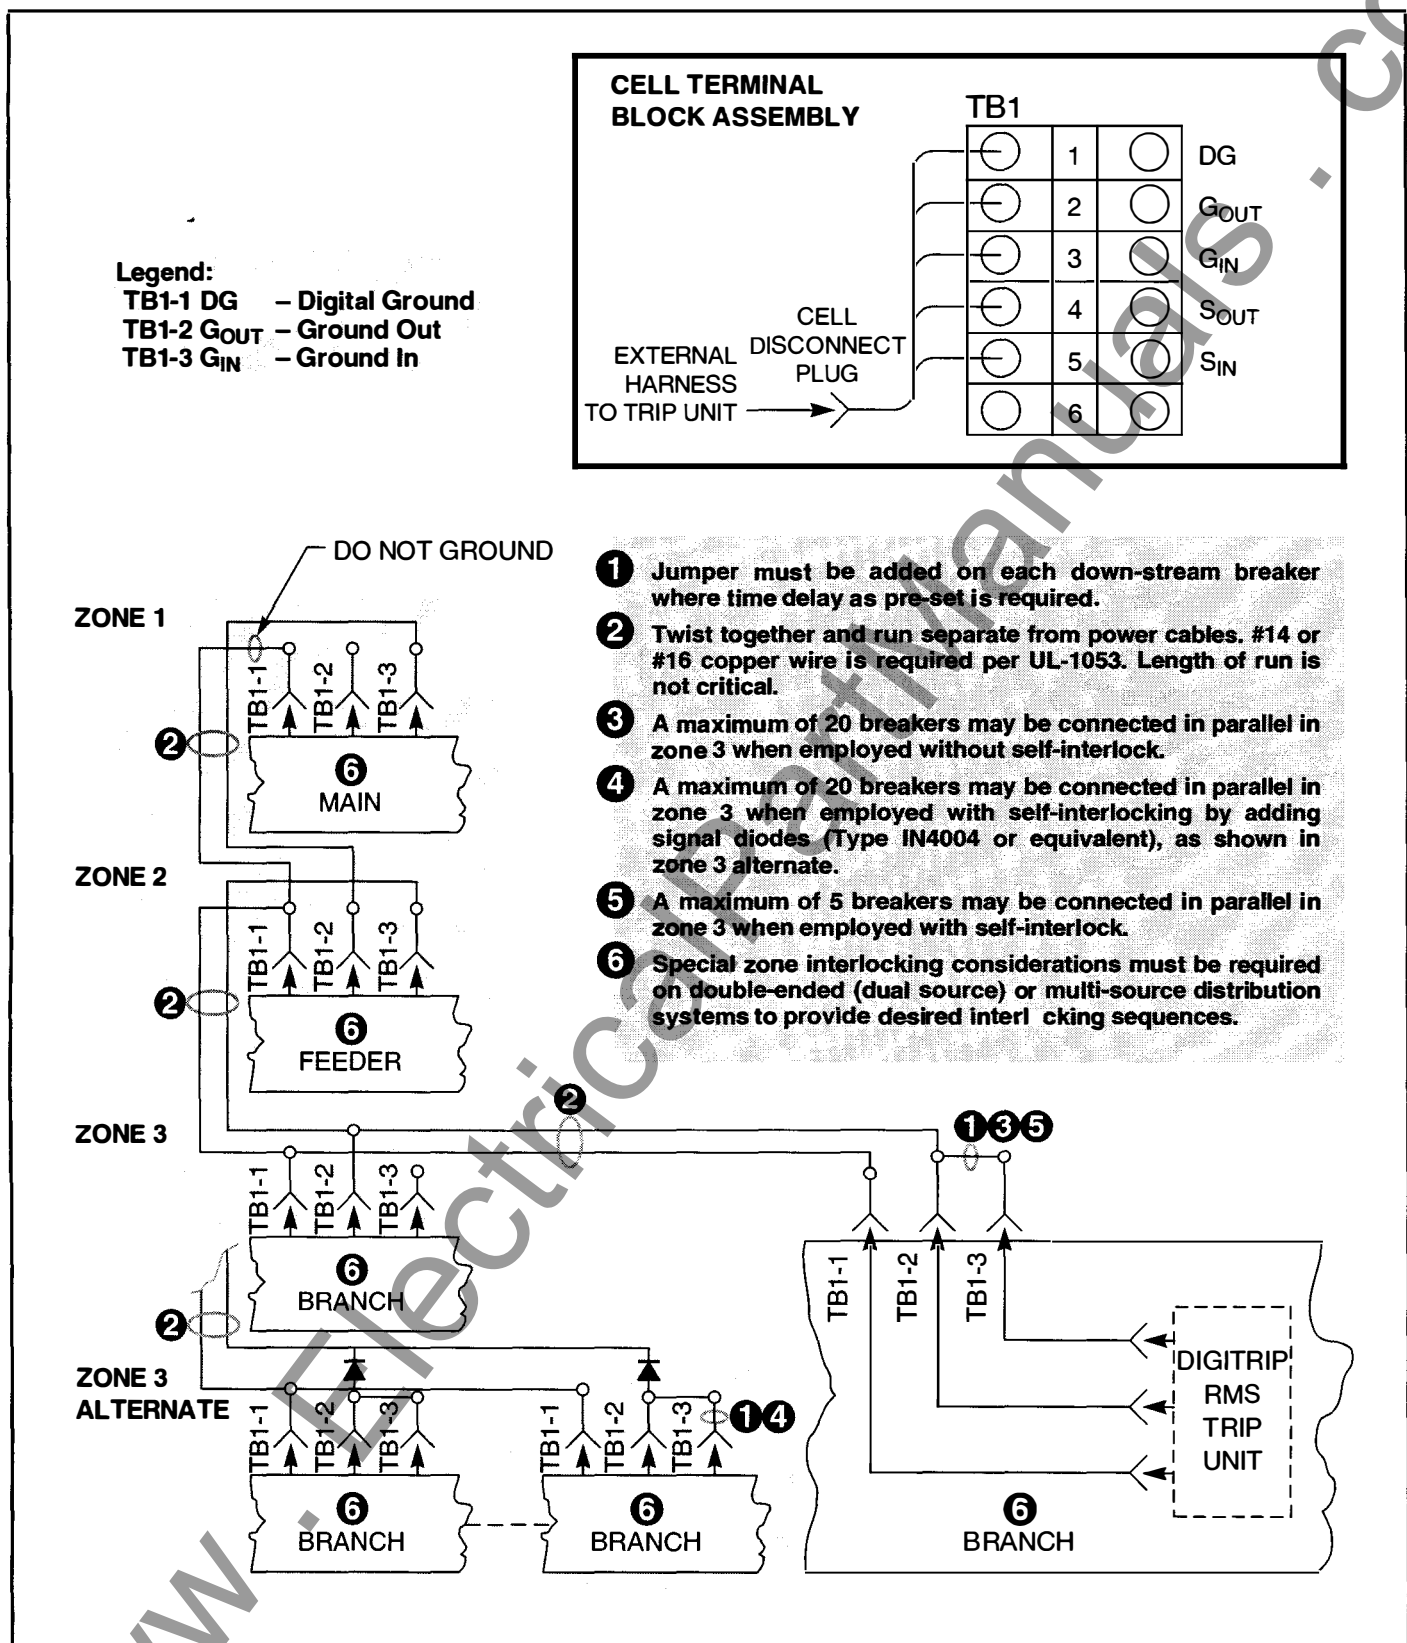

Fig. 10-2 Connection Schematics for Multiple Circuit Breakers
For RMS 510 Zone, 610, 810, & 910 Retrofit Kits, Zone Interlock functions are available at the Cell Harness assembly as shown in Figure 12-12. The Breaker External Harness plugs into the Cell Harness Assembly, which includes provisions for external wiring connections as shown in Figure 12-12. Shorting jumpers are provided at the Terminal Block Assembly to defeat the Zone Interlock functions. These jumpers can be removed and selective Zone Interlocking schemes applied. Typical connection schemes for multiple Circuit Breakers are shown in Figures 10-2 and 10-3.
3. To increment the Address, press and release the "Demand Reset" push button near the display window (see Figure 10-2). The Address will increase by one unit each time you press the Demand Reset push button. If you press and hold the Demand Reset push button, the Address will increase continuously, slowly at first, and then faster as you continue to hold the button in. (Continue to hold in the Trip Reset push button while you do this.)